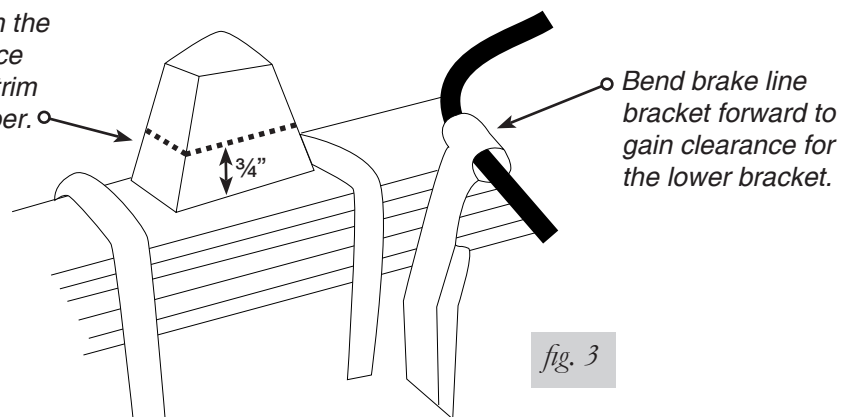

fig. 3
2. Bend the emergency brake cable bracket forward slightly on both sides of the vehicle (fig. 3).
3. It will be necessary to trim the stock jounce bumper to gain clearance for the air spring assembly's lower bracket. Measure up from the base $\frac{3}{4}$ " and mark a line on the jounce bumper. Using a box cutter or equivalent, cut the top of the jounce bumper off (fig. 3).